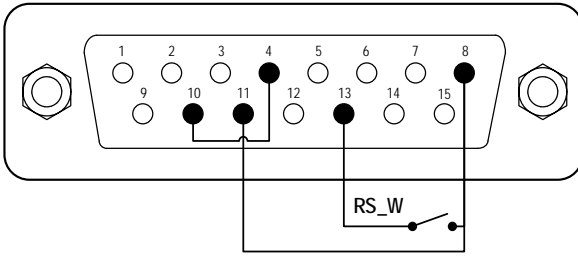
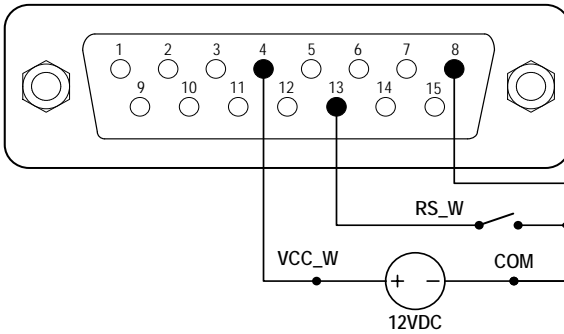

Figure 19. Logic Level 1 Control with Internal 12V Power Source
Figure 20. Logic Level 1 Control with External 12V Power Source
- 1) Switch the power off. Wire the DB15 connector as shown in Figure 19 or Figure 20, and connect it to the DB15 port on